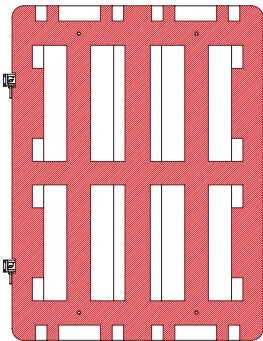

Fig. 1
2. **Mark Out:** Hold the box in position and mark fixing points using approved drilling locations. (See Fig. 1)